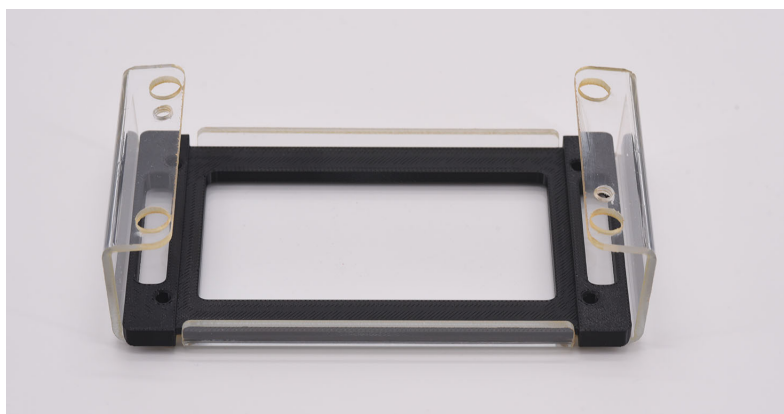

Figure 110 Array docking station with tray base installed
- 2 Place the tray base inside the array docking station as shown in **Figure 110**.